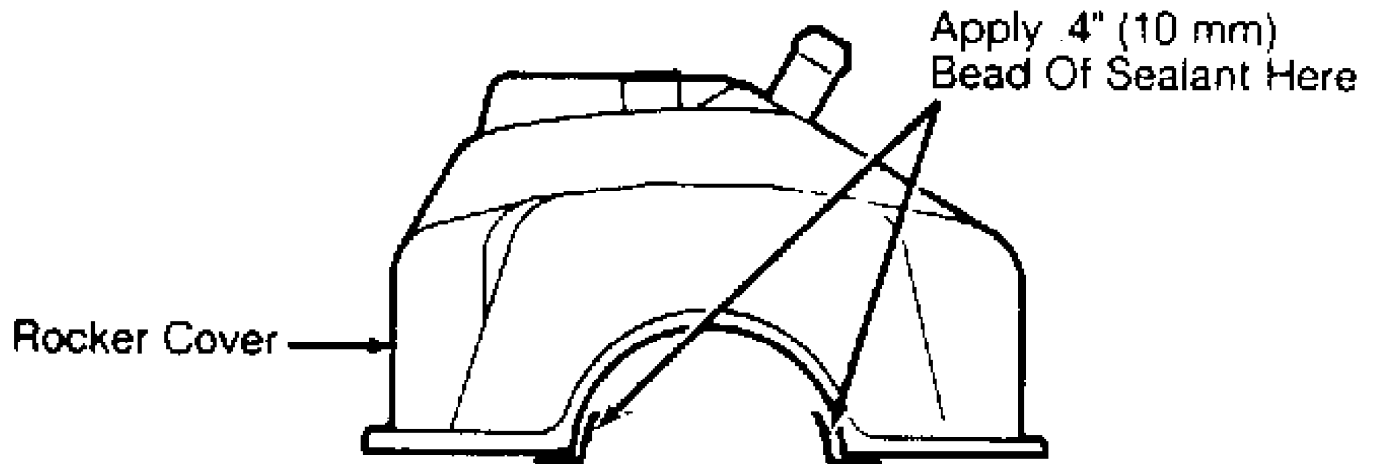

Fig. 4: Applying Sealant To Rocker Cover
3) Apply sealant to rocker cover sealing surfaces before installation. See Fig. 4. Align rocker cover gasket projections with notches in rocker cover. Lubricate all "O" rings with engine oil before installation. Install new "O" rings onto distributor adapter and oil dipstick tube.
4) Apply Three Bond (1212D) sealant to rocker cover sealing surfaces before installation. See Fig. 4. Lubricate new "O" ring with oil, and install onto distributor adapter (if removed).